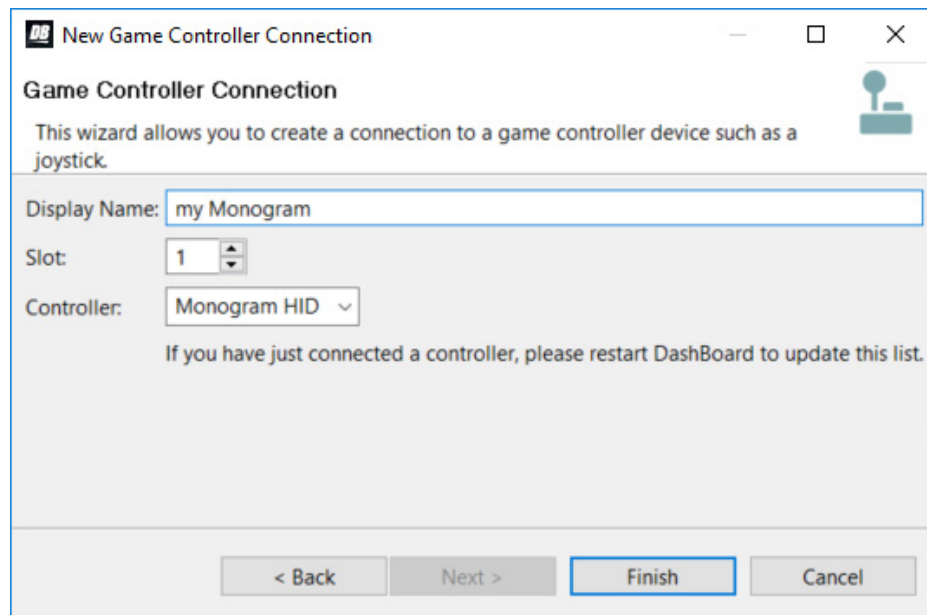

Figure 32 - Connecting to a USB controller
5. In the **Wizards** list, expand **Input Devices**, select **New Game Controller**, and then tap **Next**. The **New Game Controller Connection** dialog box appears (Figure 32).